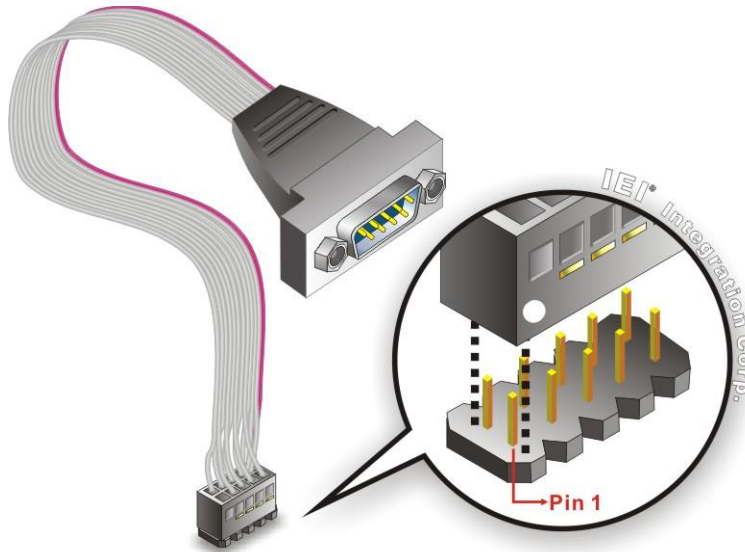

Figure 4-23: Single RS-232 Cable Installation
Step 2: Insert the cable connector. Align the cable connector with the onboard connector. Make sure pin 1 on the board and connector line up. Pin 1 on the cable connector is indicated with a white dot. **See Figure 4-23.**